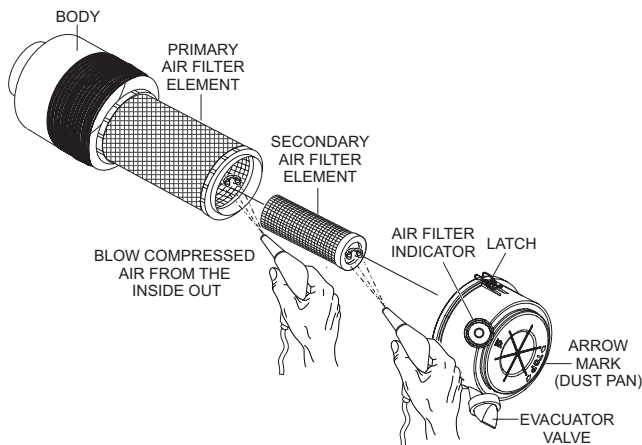

Figure 63. Engine Air Cleaner
The air cleaner (Figure 63) provided with this John Deere diesel engine is equipped with a replaceable, high-density, paper air filter element. The air cleaner is also equipped with an inner (secondary) element that is used as a backup filter should the primary element become damaged. Check the air cleaner daily or before starting the engine. Replace the air cleaner as needed.
**Every 250 hours:** Remove the air cleaner elements (Figure 63) and clean the heavy-duty paper element with a light spray of compressed air.
1. Release the latches (Figure 63) that secure the cover to the air cleaner body.
6. To clean the primary element (paper air filter) as shown in Figure 63, tap the filter element several times on a hard surface to remove dirt, or blow compressed air, not to exceed 30 psi (207 kPa, 2.1 kgf/cm2), through the filter element from the inside out.